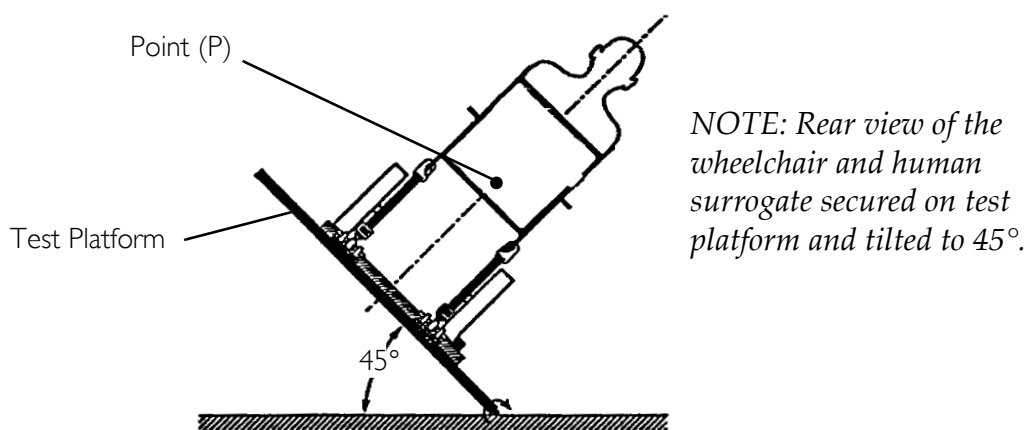

FIGURE 10.3 Vehicle-Anchored Belts
NOTE: For this procedure, refer to FIGURE 10.3.
The test for Lateral Stability Displacement for Point (P) is shown in FIGURE 10.3. The average test result for point (P) is 0.44-inches (11.2 mm).